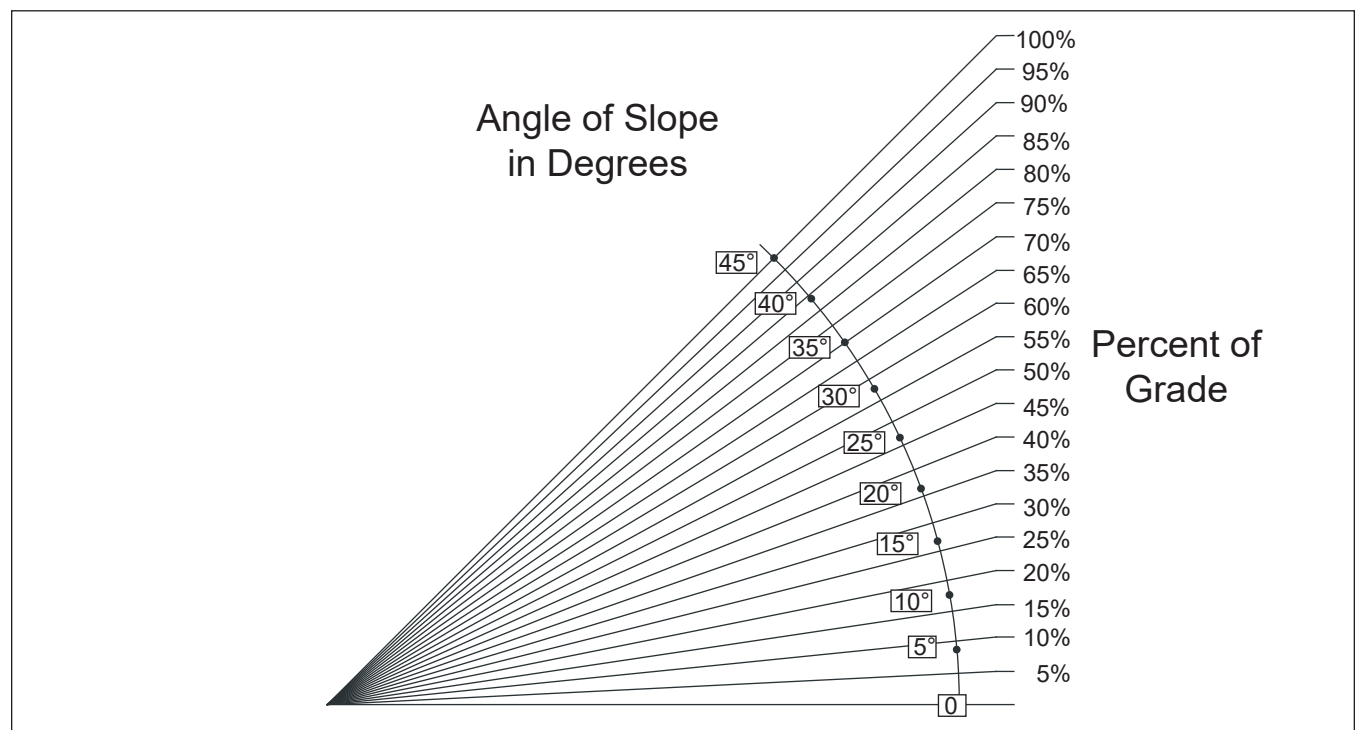

Figure 8.6 – Slope Percent/Degree Conversion
Angle indicators, or inclinometers, often measure the angle of the slope in degrees not the percent slope. Because of that, it may be useful to understand the relationship between percent slope and the degree of the slope angle as shown in Figure 8.6.
5. Use the formula in Figure 8.6 to calculate the percent of the grade.